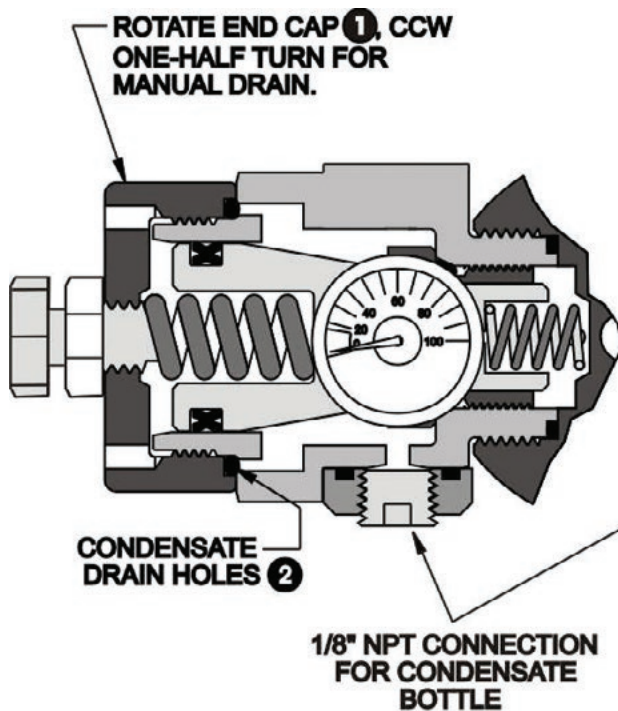

Figure 15: Dumping Regulator Condensate
1.3 Dumping Regulator Condensate (refer to Figures 15 and 16)
PF3 pump styles are equipped with a 40 micron inlet filter screen and an integral purge valve, for sample bottle purging during change-out. (See Figures 15 and 24, respectively, for maintenance instructions.) An automatic balance valve compensates for fluctuating line pressures to ensure no bleed-up or bleed-down of the sample bottle will occur if line pressures change. The sample bite size may be determined by using the fixed bite size nuts (in configurations A and B), or may be adjustable anywhere from .04 cc to .5 cc (in configurations A, B, and S). In addition, the PF3s can be